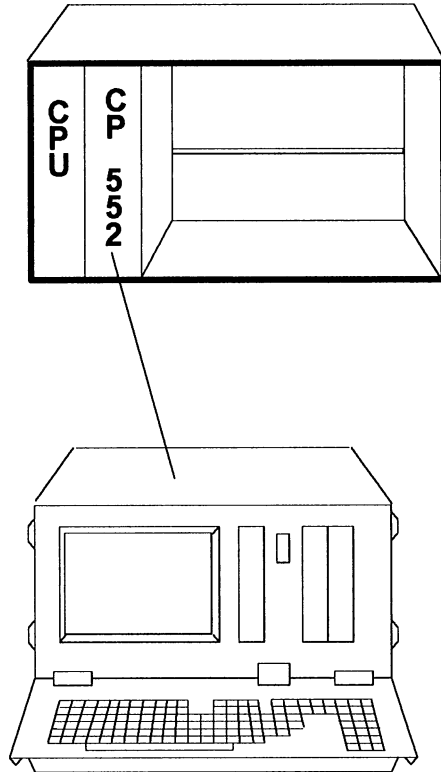
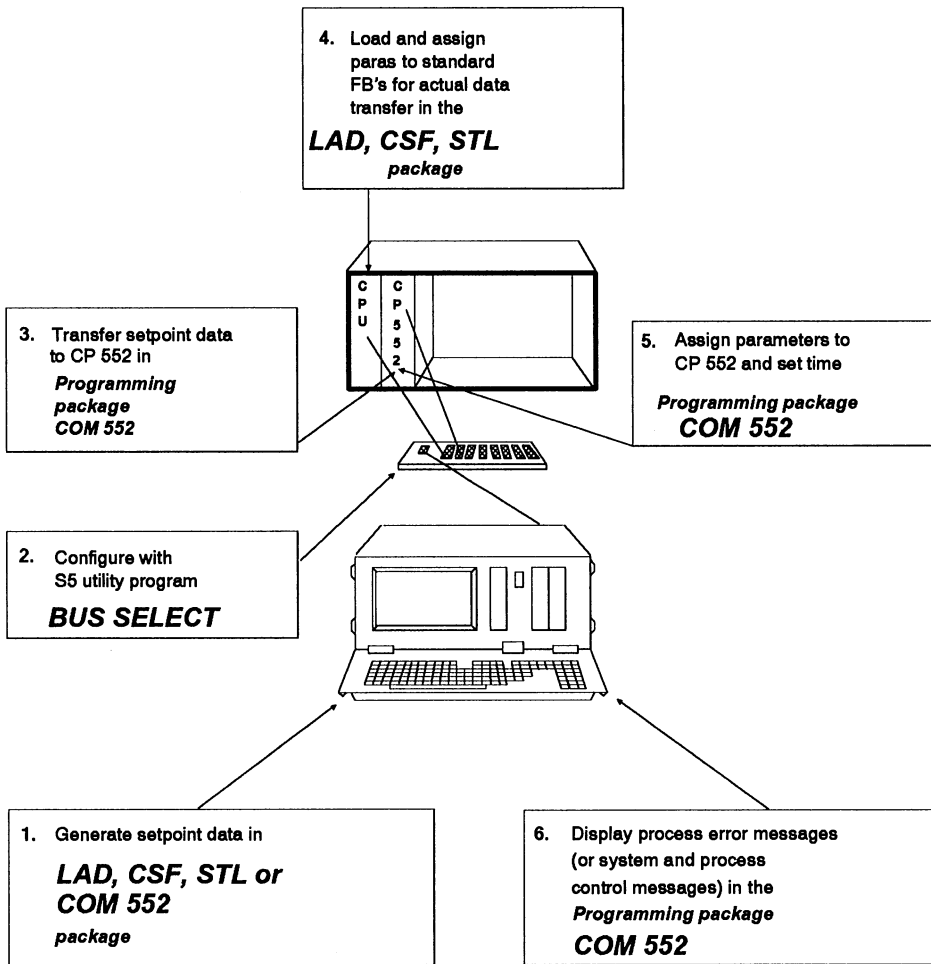

Fig. 1-14 Single diagnosis locally via the AS 511 interface;
Fig. 2-1 Local single diagnosis via the AS 511 interface
- **locally** via the AS 511 interface (Figs. 1-14 and 1-15) or
Only **single diagnosis** is possible using the AS 511 interface. The hardware configuration required is described in Section 1.5.2 (Figs. 1-14 and 1-15). Fig. 2-1 shows the programming packages required for single diagnosis via the AS 511 interface.